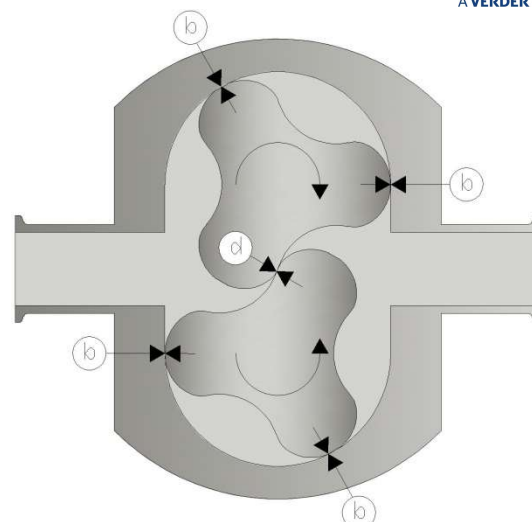

Figure 30 - Shim / clearance measuring
- Push the new lip seals into the housings. Assemble the spacer collar, wave spring and drive plate as shown in Figure 30. (Also see 6.6 SEAL HOUSINGS)
- When re-fitting the rotor case to the bearing housing, take care that the lip seals and mechanical seals (80) are not damaged by the shaft splines or shaft ends.
- Align the rotors in the rotor case as per Figure 30
- Check the rotor to rotor meshing clearance (d in Figure 30, left of bottom lobe) on the first lobe and note it down.
- Turn the rotors 120° (clockwise on driving shaft rotor) and take the rotor to rotor meshing clearance (d in Figure 30, left of bottom lobe) on the second lobe and note it down.
- Turn the rotors 120° (clockwise on the driving shaft rotor) and take the rotor to the rotor meshing clearance (d in Figure 30, left of bottom lobe) on the final lobe and note it down.